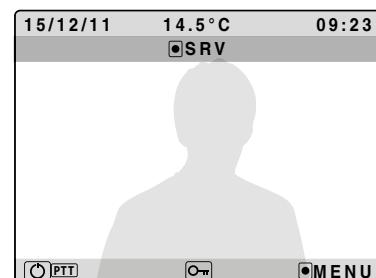

Fig. 2C
- To enable the secondary service keep pressed the  button until the activation signals (call tone plus message) are received **Fig.2C**;